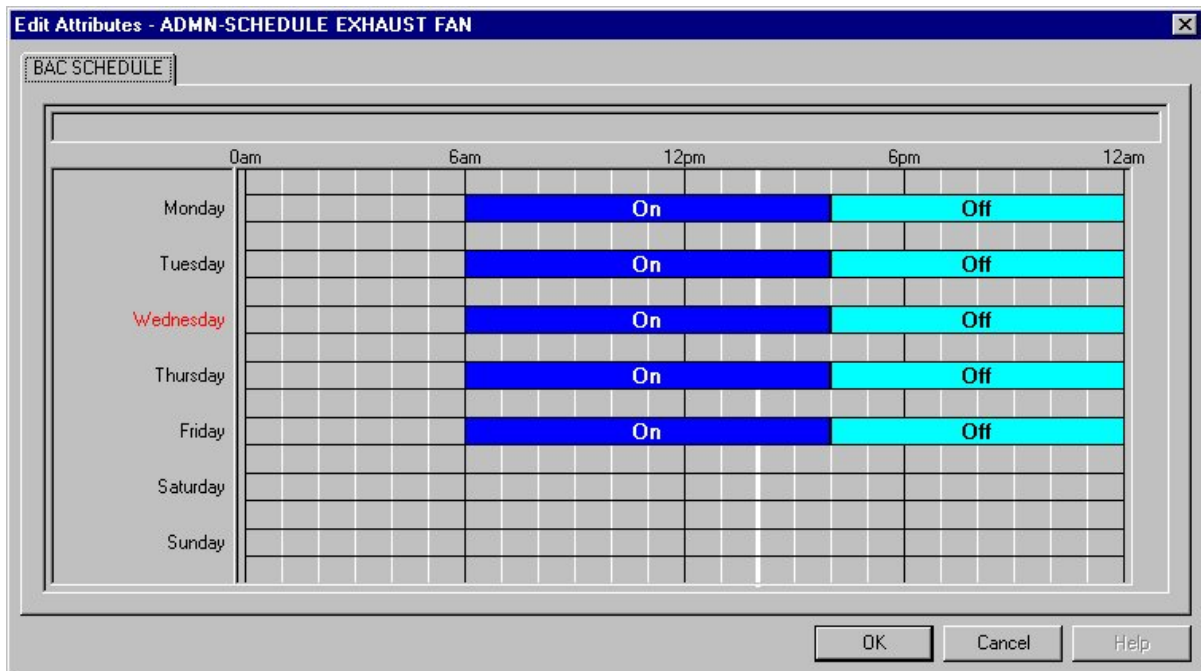

Figure 8-1: BAC Schedule Object Edit Attributes Screen
2. Select Edit Object on the Edit menu, or double-click the row head for the Schedule with which you want to work. The Edit Attributes screen for BAC Schedule appears (Figure 8-1).
2. Select Edit Object on the Edit menu, or double-click the row head for the schedule with which you want to work. The BAC Schedule object Edit Attributes screen appears (Figure 8-1).
1. Open the BAC Schedule object Edit Attributes screen (Figure 8-1).